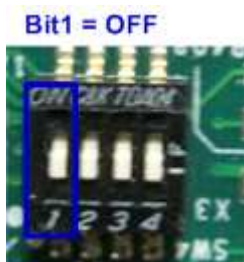

Figure 1-2 Set SW to select clock input
- Set Bit1 of SW4 = OFF to select clock input fed from programmable oscillator, as shown in Figure 1-2.